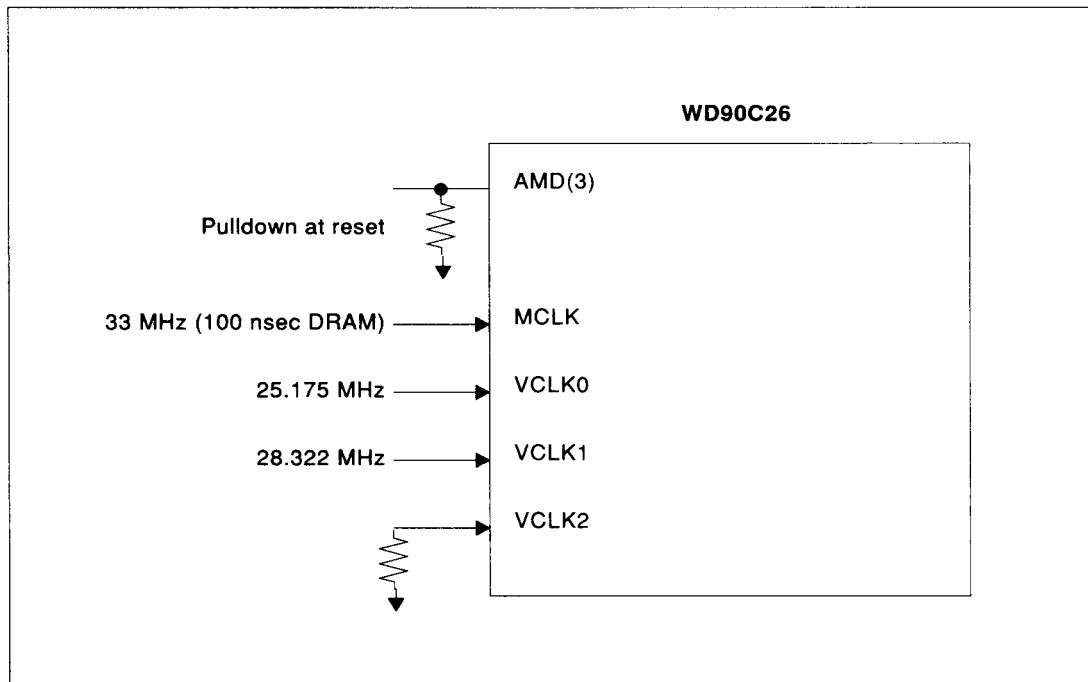

FIGURE 6-17 TYPICAL OSCILLATOR OR CLOCK FREQUENCIES FOR STANDARD VGA MONITOR SUPPORT
- Typical Oscillator or Clock Frequencies for Standard VGA Monitor Support (see Figure 6-17).